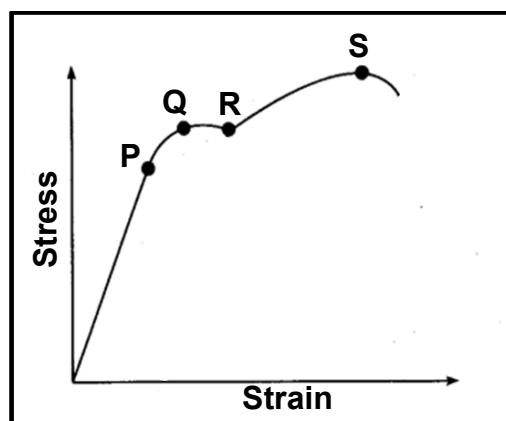

FIGURE 4.7
4.7 FIGURE 4.7 below shows the stress-strain diagram obtained during a tensile test on mild steel. What is indicated by **S** in the diagram?